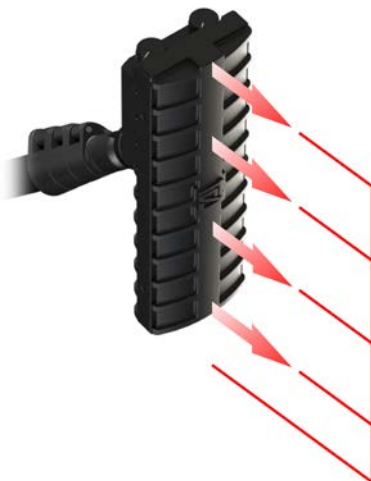

fig.5
The orientation of the main unit when operating in the “DETECTOR” mode is shown in fig.5 (the direction to the search object is indicated by arrows).
5. Bring the main unit to the examination object, orienting the device as shown in fig.5.